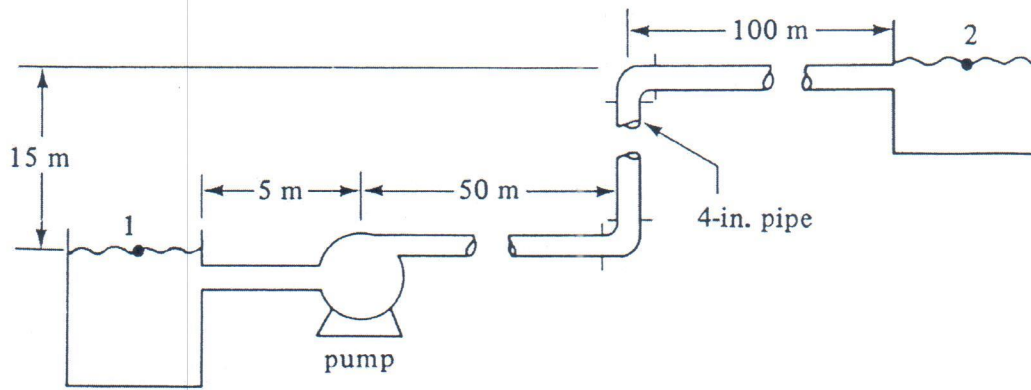

Figure Q.2.[a]
2. [a] Water at 20°C is being pumped from a tank to an elevated tank at a rate of  $5.0 \times 10^{-3} \text{ m}^3/\text{s}$ . All the piping in Figure Q.2.[a] is 4-in Schedule 40 commercial steel pipe. The pump has an efficiency of 65%. The total friction in the piping system includes contraction loss at tank exit, friction in the straight pipe, friction in the two elbows and expansion loss at the tank entrance. Calculate the kW power needed for the pump.